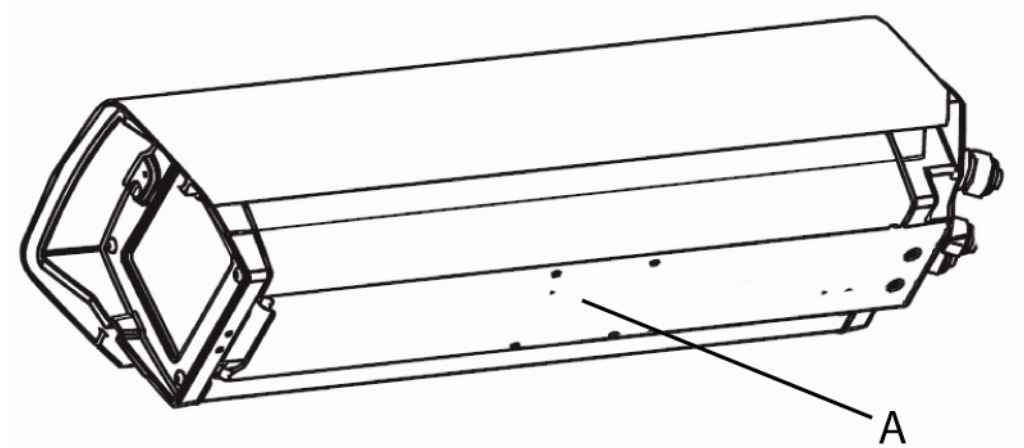

Fig. 6 Mounting the Camera Housing Assembly
1. Screw the mounting bracket to the base of the unit **(A)** (see Fig. 6).